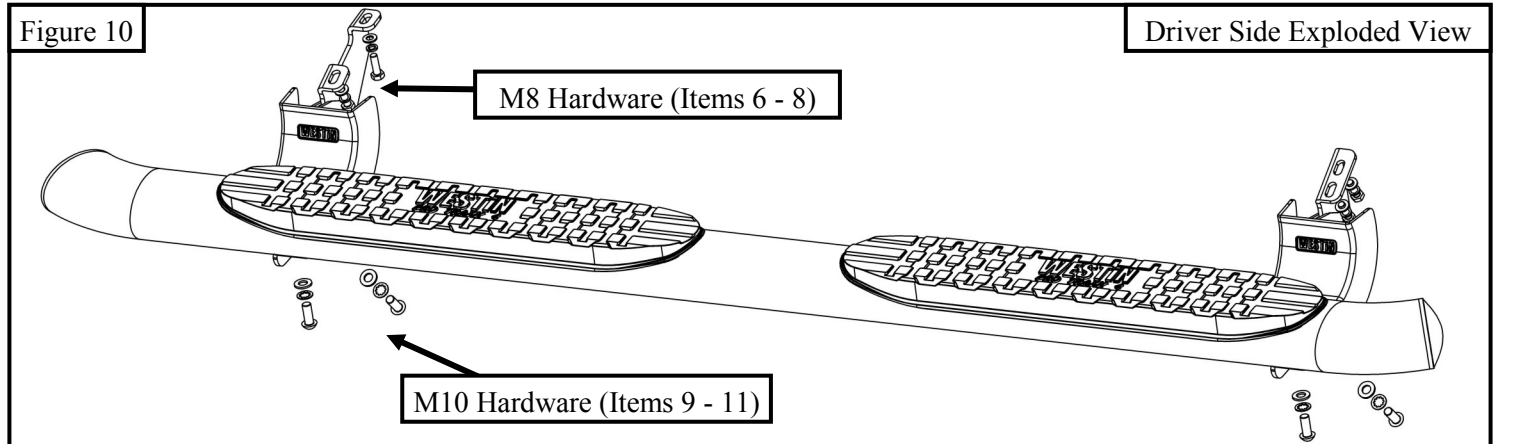

Figure 10
7. Take the drivers side step bar and place it on the mount bracket cradles and align it with the mounting holes. Attach using (4) M10 hex button head cap screws (Item 9), (4) M10 toothed lock washers (Item 10), and (4) M10 flat washers (Item 11) (**Figures 10 & 11**) **Note:** The Westin logo should face outward.